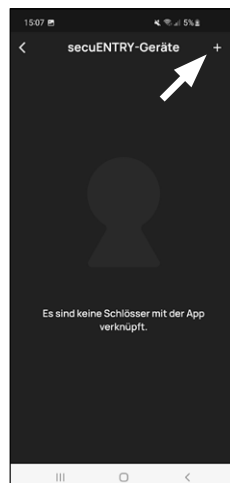

Fig. 2
- 2 The app displays a list of the cylinders that have already been registered. This is empty during the initial setup. Setup a new cylinder by tapping on the „+“ in the top right-hand corner (Fig. 2).